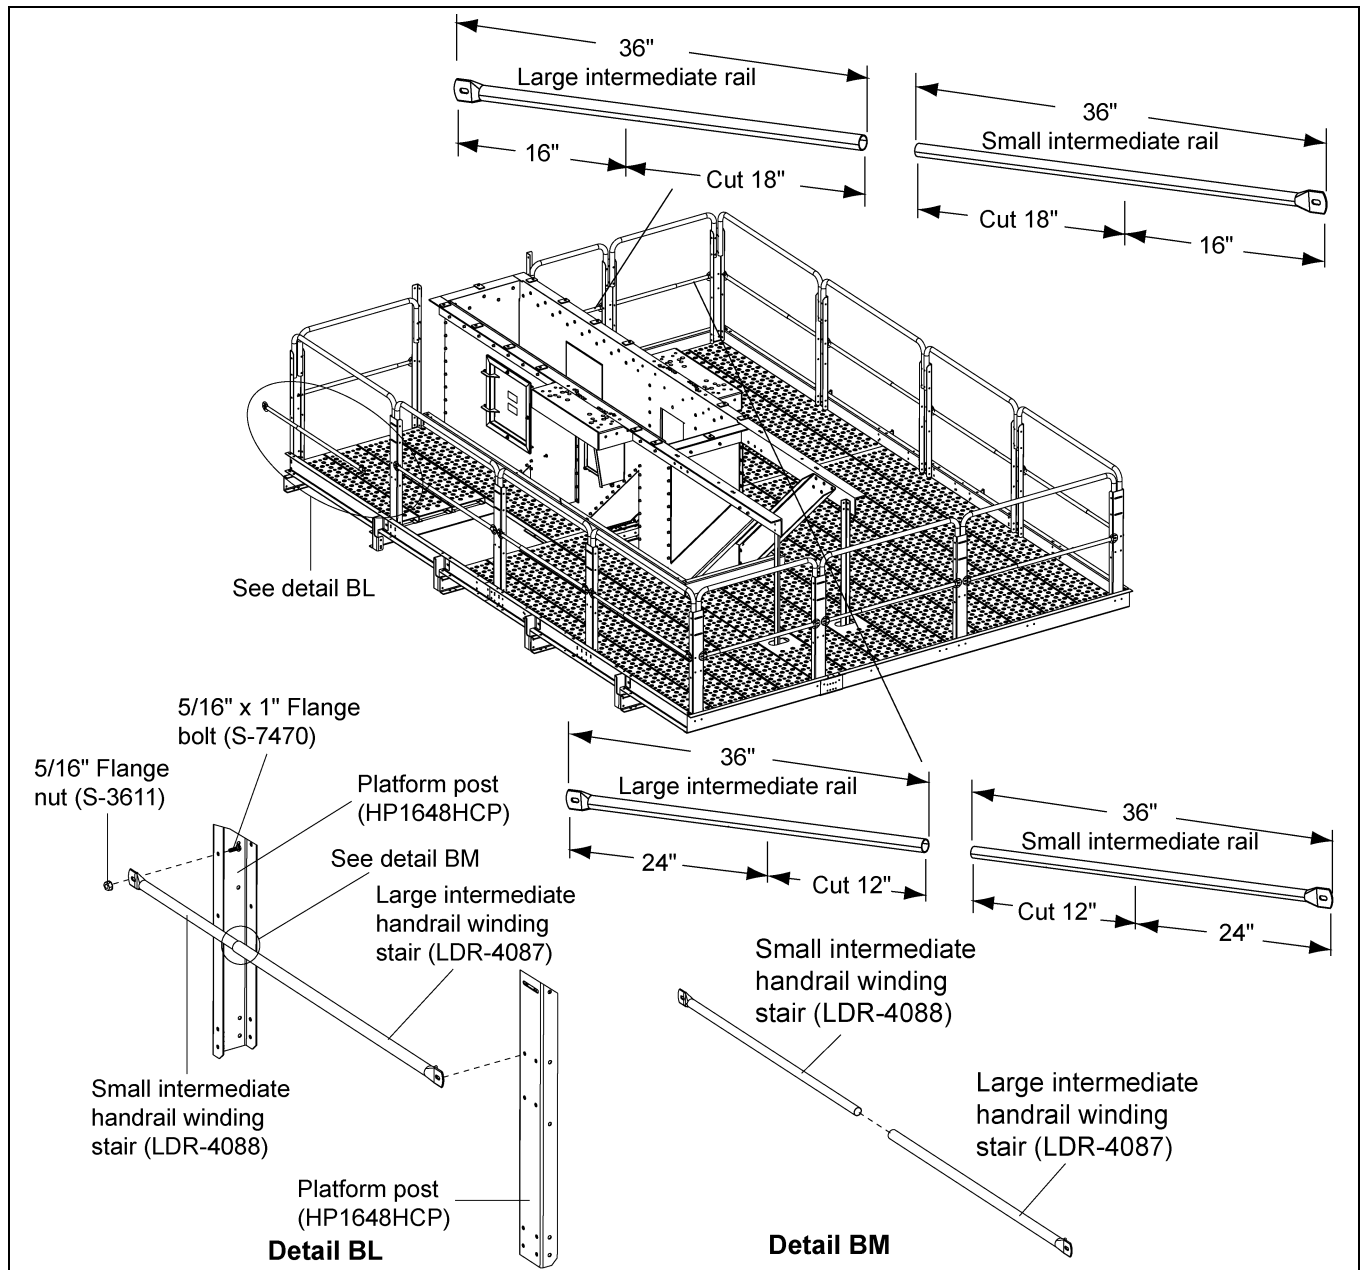

Figure 9S
(See Figure 9S.)
2. Cut 12" off the tube end of one small intermediate handrails (LDR-4088) and one large intermediate handrails (LDR-4087). Install these intermediate rails on the drive side at the corner. (See Figure 9S.)
3. Slide the small rail into the large rail and install one set at discharge end and other two (2) sets opposite the discharge end on hatch side and adjust to fit.